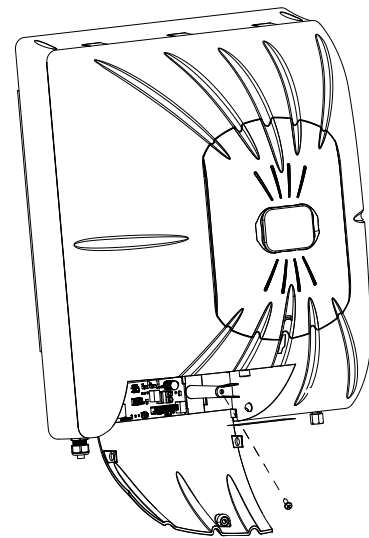

Figure 12
5. Open the access cover and remove the screw on the right side of the opening that holds the motor dome to the base. See Figure 12.
9. Replace the motor cover by sliding it onto the dome until it bottoms out. Place the dome back on the base and secure it with the screw removed previously. Refer to Figure 12.